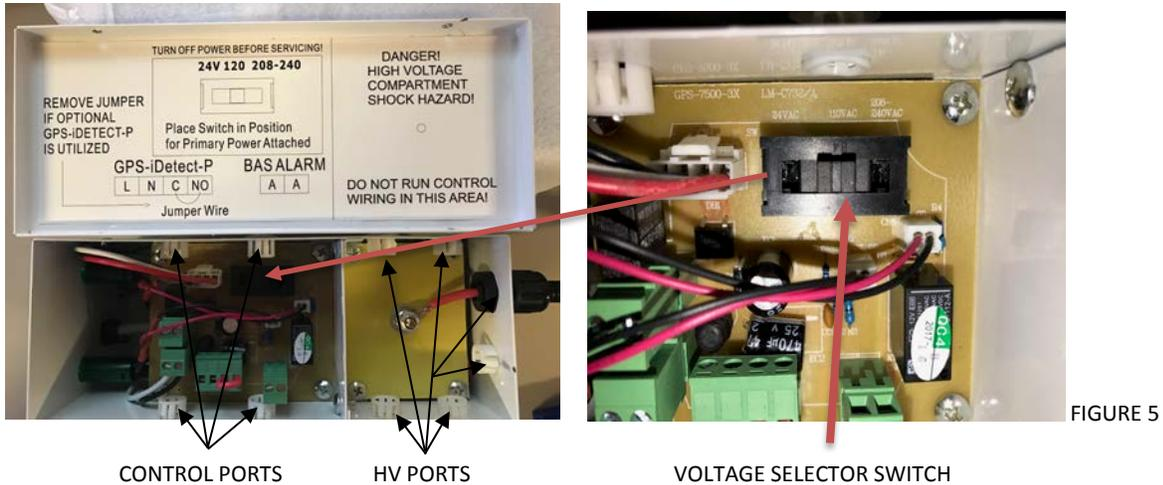
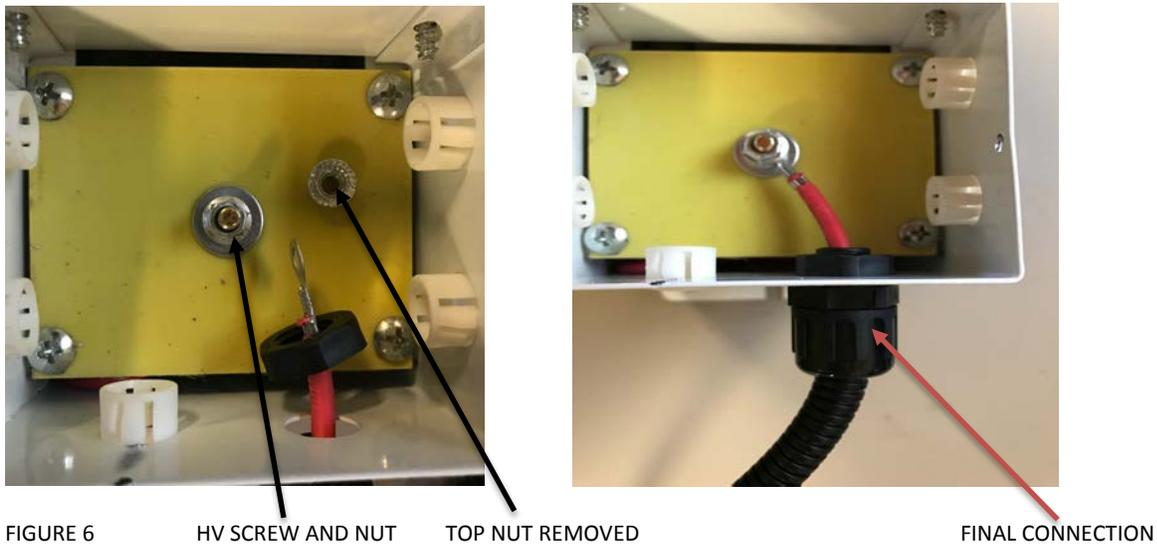

FIGURE 5
FIGURE 6 HV SCREW AND NUT TOP NUT REMOVED
The GPS iMOD system requires a total of 15 watts to power up to (6) GPS iMODs at any length. The power supply will accept 24VAC, 115VAC or 208-240VAC at 50HZ or 60HZ. **CAUTION!! The power supply has an internal voltage selector switch set to 115VAC from the factory, refer to Figure 5. If 24VAC or 208-240VAC is required, move the selector switch to the proper position as shown on the circuit board or inside cover of the power supply lid. DO NOT APPLY POWER until the switch position matches the power supplied. Based on voltage input or local electric codes, the 3 prong plug may be cut off and the three wires are as follow: White = Neural, Black = 24V, 110V or 208-240V (based on switch position) and Green = Ground.**
3. One opening in the high voltage (HV) section will be left open for attachment of the HV wire. Refer to Figure 6. Based on the jobsite specific wiring route, access to the right, left or top side may be desired. Remove the plug from the port desired and fill the port not used with the spare plug. **DO NOT RUN HIGH VOLTAGE INPUT WIRES THROUGH THE CONTROL PORTS AND DO NOT RUN CONTROL WIRING THROUGH HV PORTS! REFER TO FIGURE 5**